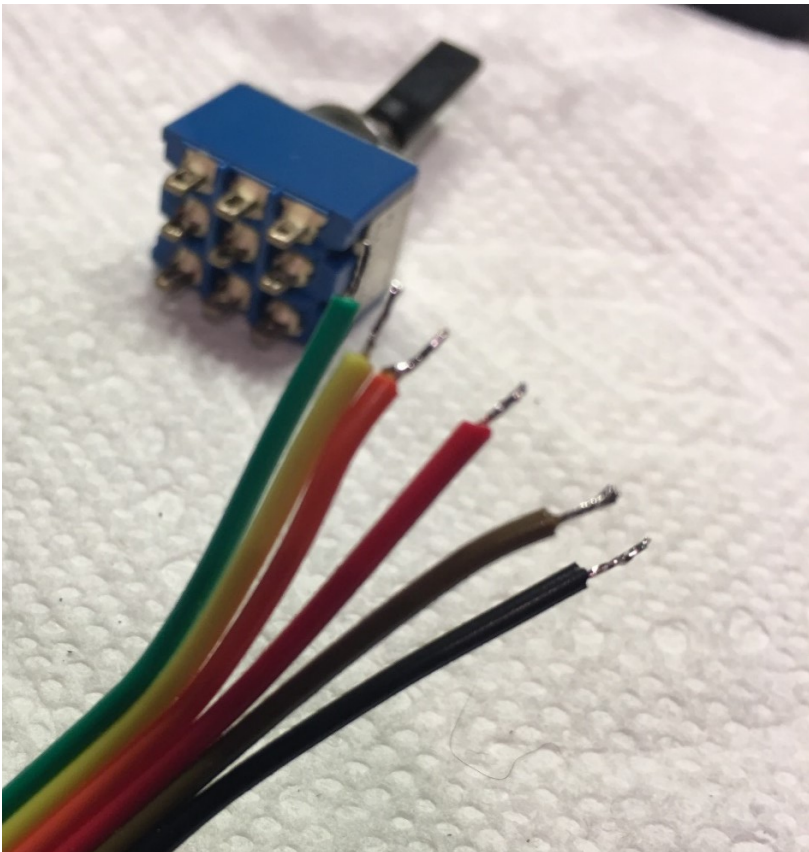

Figure 1 - Wires stripped and tinned
4. Strip & Tin the end of the wires. (Figure 1)